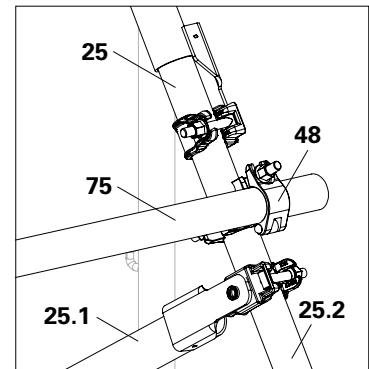

Fig. D7.07a
2. For 3-m-long bays, horizontally reinforce each multi brace with an outer tube. For bay lengths ≤ 2.5 m, horizontally reinforce each multi brace with a scaffold tube (75) and standard couplers (48). (Fig. D7.07a)